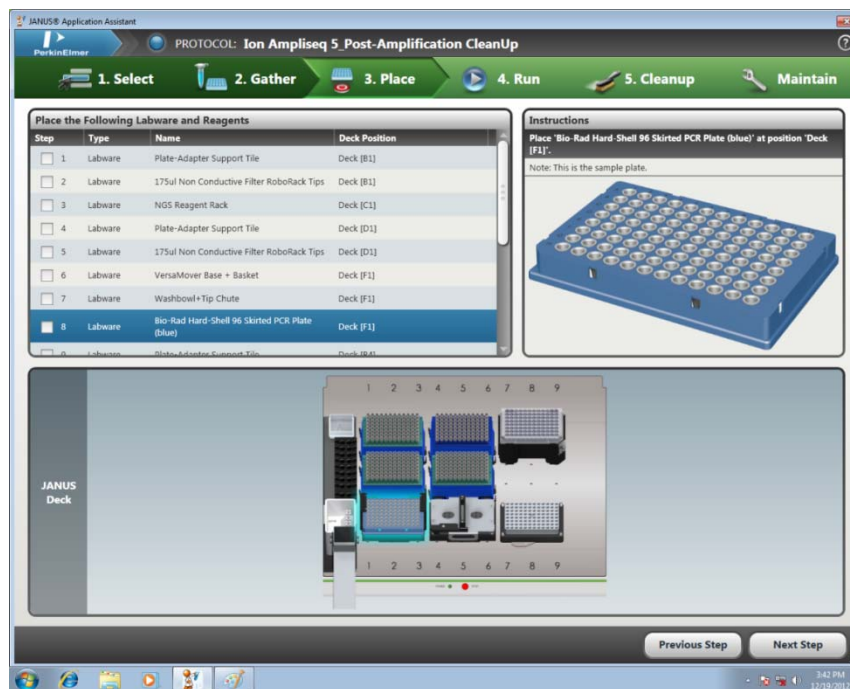

Figure 37. Place page of NGS Express software showing the location of the sample plate on the deck for Ion AmpliSeq Post-Amplification Cleanup protocol.
- b. Follow the instructions in the Place tab of the software for placing support tiles, tips, and plates on the deck. Note that your sample plate must be in the basket in the front left position on the deck, as shown in Figure 37.
- c. Make sure the SPRI beads and Low TE tubes are located in the NGS Reagent rack on the left side of the deck according to the diagram in Figure 37.